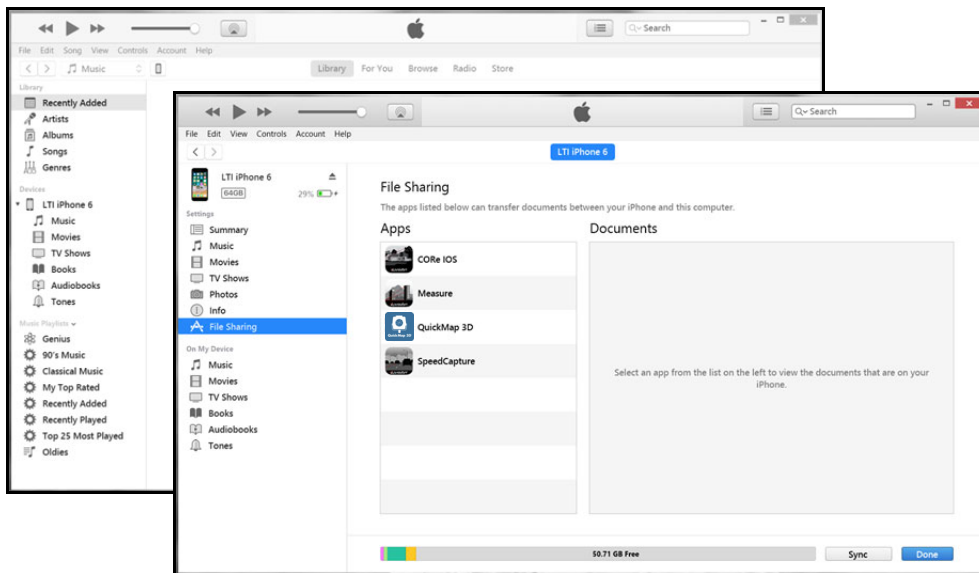

Figure 75
3. Click the device icon in the upper left area of the iTunes program to display category options in the left pane (Figure 75).